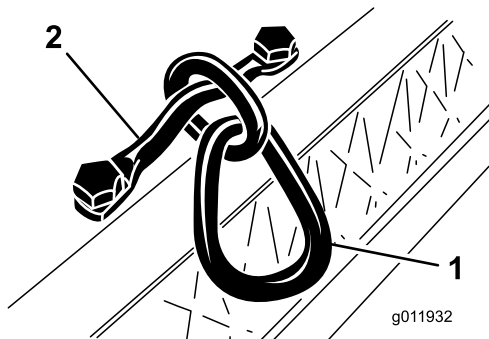

Figure 5
Install chain link to top of cutting unit with mounting bracket and (2) capscrews. Torque capscrews to 25-30 ft-lbs. (34-40 N-m). Large end of link to hook on traction unit suspension (Figure 5).